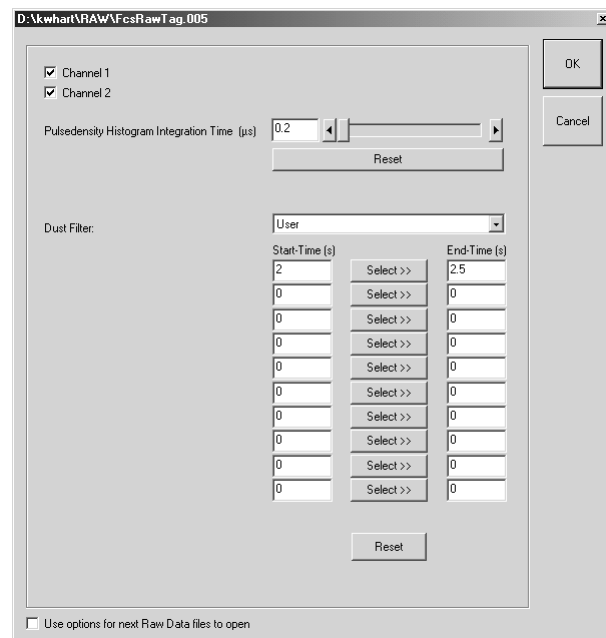
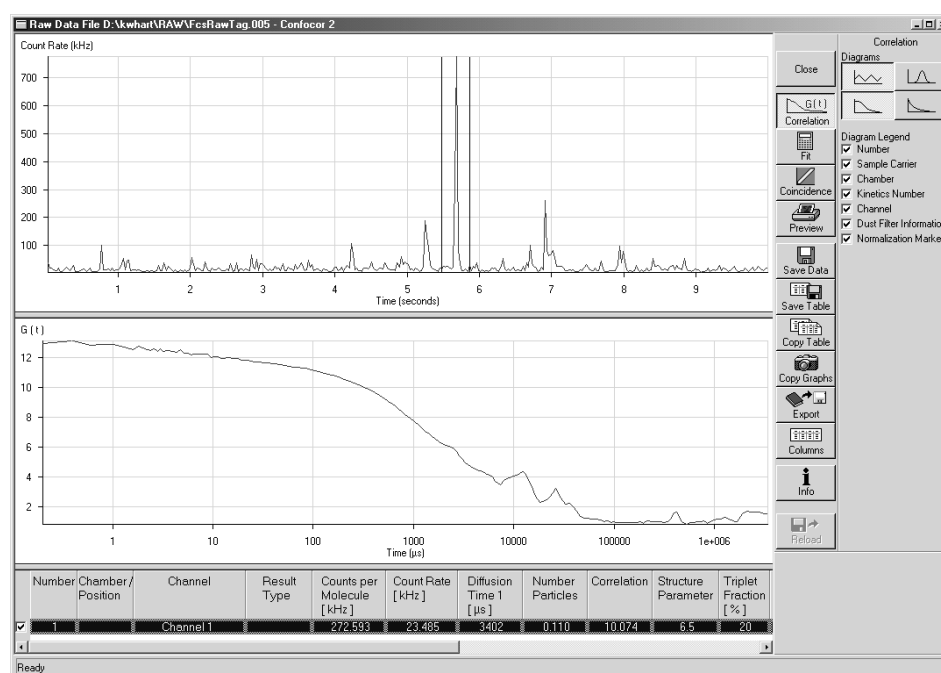

Fig. 3-99 The Options menu for loading raw data files with dust filter set to user defined
Fig. 3-100 The Count Rate Trace window with region of interest framed
- Selection of **User** (see Fig. 3-99) will give you the possibility to select up to ten regions that should be discarded for correlation analysis (for auto and cross-correlation). Type in the respective start times and end times in s of the regions you want to discard. To this end it is recommended to open the raw data with the dust filter set to **Off**, look for the peaks you want to cut out, and reopen the same raw data file by pressing the **Reload** button. Type in the corresponding boundary values and click ok. Alternatively, press **Select**, click with the left mouse button in the old opened file and position the two black bars to frame the region that you want to discard. Press **Select** again, which will display the position of the boundaries. Click ok and the diagram will reopen. The discarded regions will appear greyed out (see Fig. 3-100, 3-101). The regions taking into account and separated by discarded regions will be separately correlated and the average will be displayed. The **Reset** button will reset all typed in values to zero.